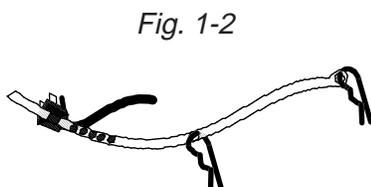

Fig. 1-2
- b. With the washer upright, pull the yellow shipping strap completely out of the back of the washer. Be sure both cotter pins come out of the washer. Note that the power supply cord plug will still be attached to the yellow shipping strap. (Fig. 1-2)